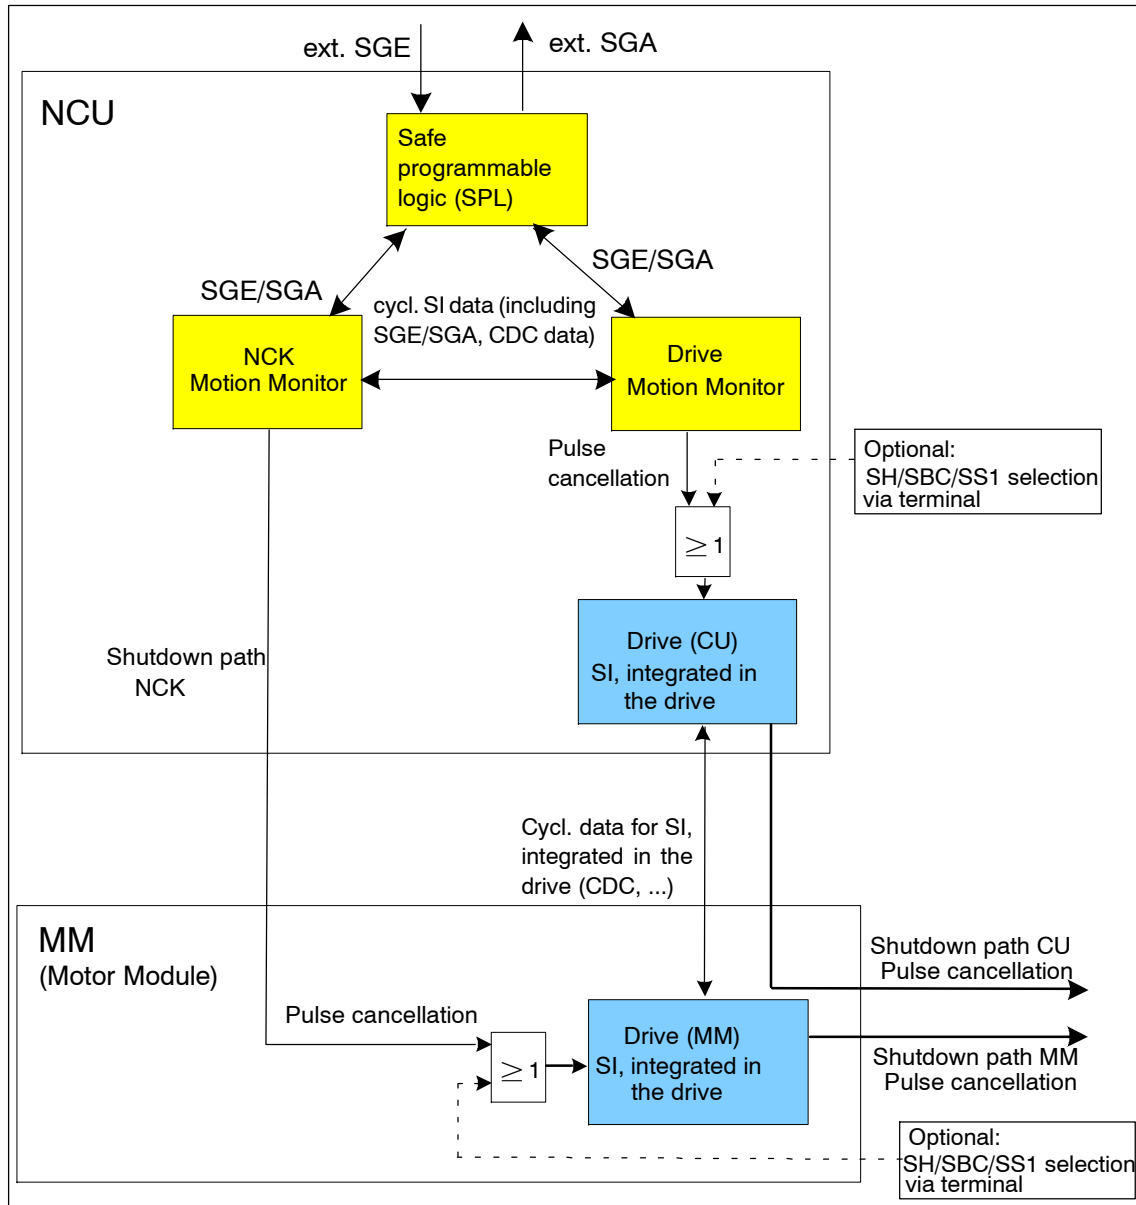

Fig. 6-1 Overview of the shutdown paths
This Chapter describes the safety function "safe standstill" (SH), controlled from the safety-relevant motion monitoring functions. The function is based on the safety functions SH/SBC of the drive (see Chapter 4). Fig. 6-1 shows the interrelationships.
The interaction of the safety functions integrated in the drive and the motion monitoring functions (Motion Monitor) are shown in Fig. 6-1.